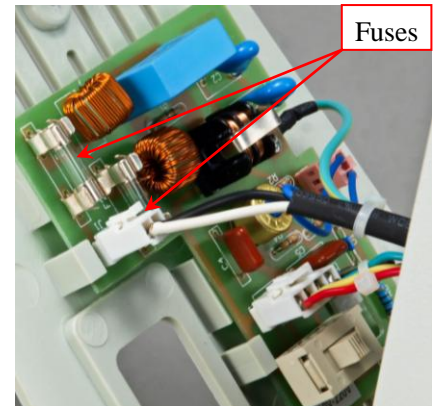

Fig. 5
- 3) Find the fuses on the board inside and take it (them) out. See **Fig. 5**.